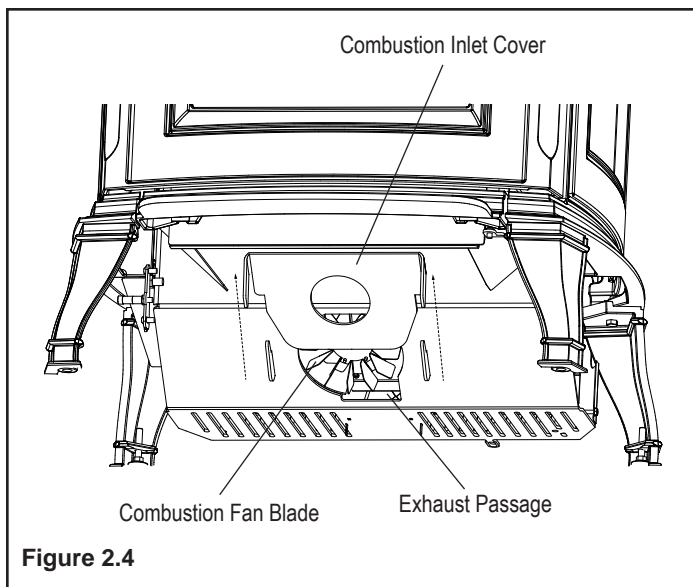

Figure 2.4
The combustion inlet cover is located behind the ash pan. The ash pan must be removed to properly clean the combustion fan blade. Figure 2.4.
- Remove the combustion inlet cover by pulling up on cover. This allows access to the combustion fan blade and exhaust path. Figure 2.4.